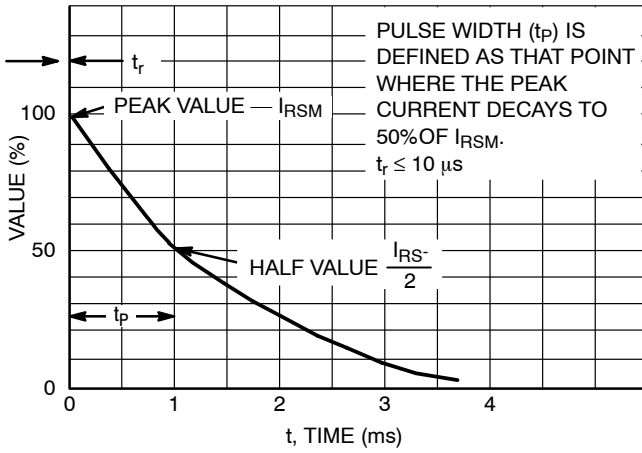

Figure 1. 10 × 1000 μs Pulse Waveform
- Peak Power: 24 W @ 1.0 ms (Unidirectional), per Figure 1
2. Non-repetitive pulse per Figure 1.